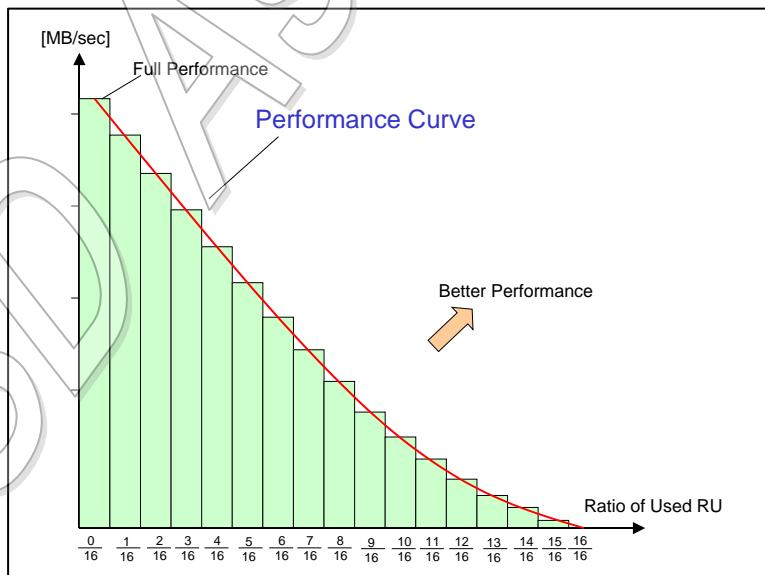

Figure 4-49: Card Performances between 16 RUs
Figure 4-49 shows the write performance bar chart of P(Nu) of equitation (1). An AU consists of 16 RUs in this example. Joining the points of each bar shows the performance curve, which can be determined from the two parameters, P_w and P_m .